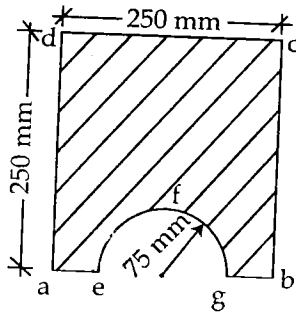

Fig. 12
9. (a) Find the M.I. of the lamina shown in the fig.12 about its horizontal centroidal axis. **10+4**